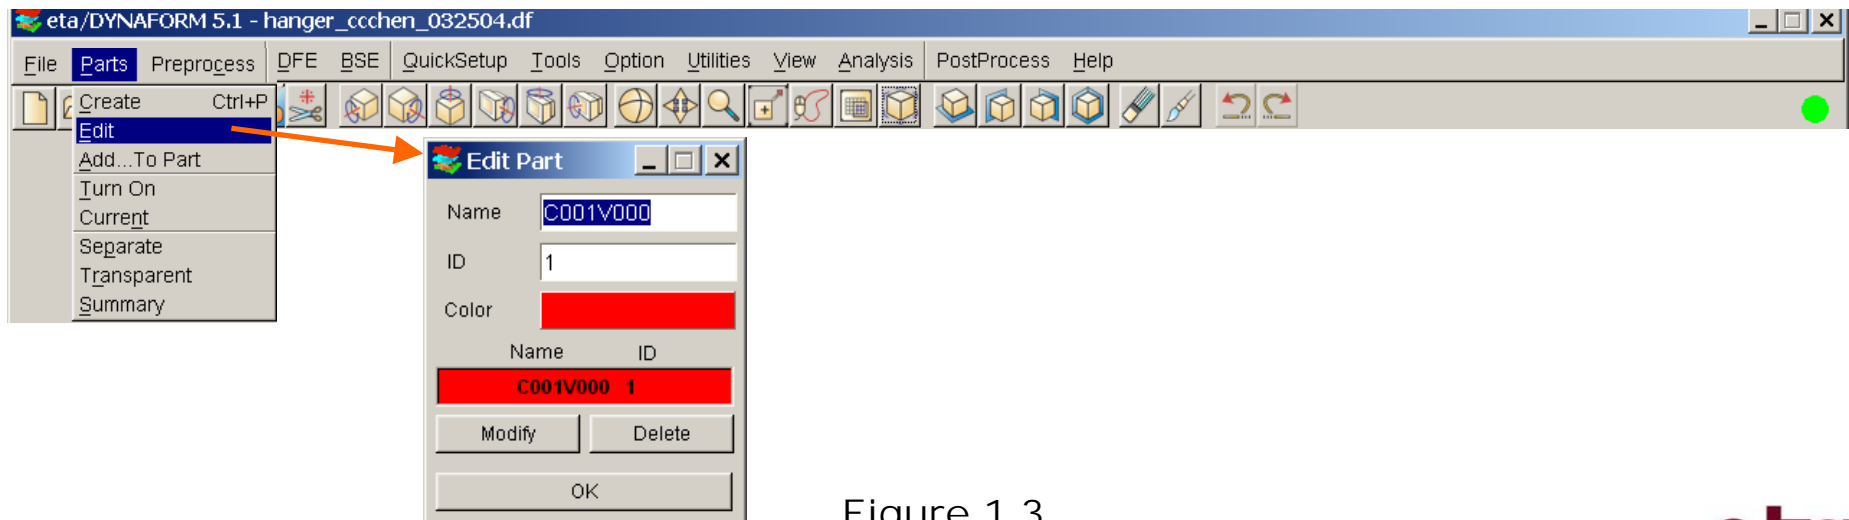

Figure 1.3
- Click on **Parts** (See Figure 1.3)